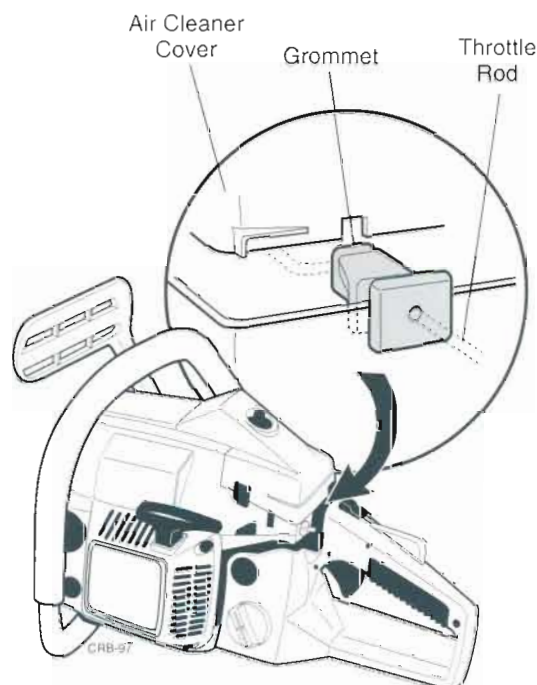

Figure 3.28 Throttle Rod Grommet Orientation
- Install the air cleaner assembly and cover in the reverse of disassembly, and (where used) pay special attention to the correct orientation and seating of the rubber throttle rod grommet (Figure 3.28).